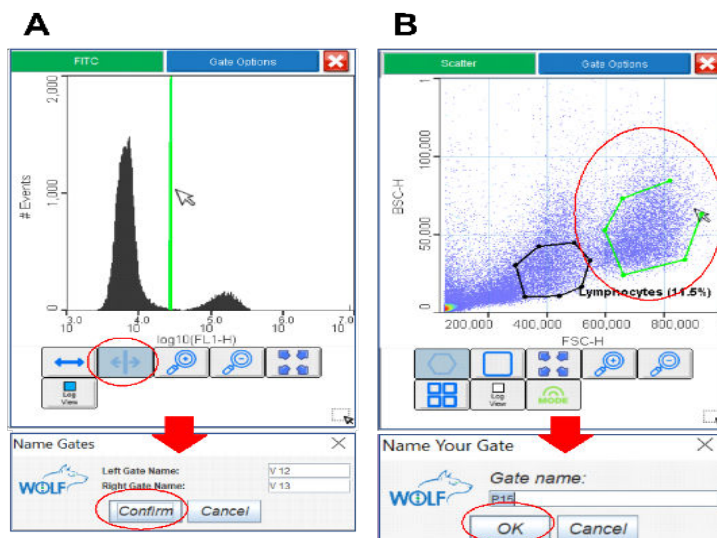

Figure 37. Creating plot gates.
2. For vertical and quadrant gates, click on the plot to apply it (Fig. 37 A).
point with the first one or double-click for automatic closing (Fig. 37 B).